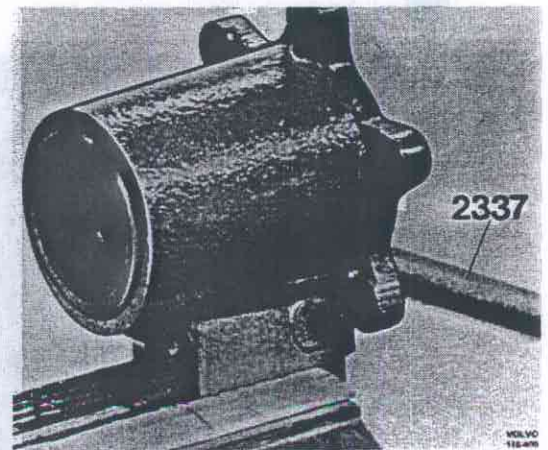

Fig. 43-163. Driving out seal
7. Drive out the output shaft with a plastic mallet. Drive out the seal with 2337, Fig. 43-163.